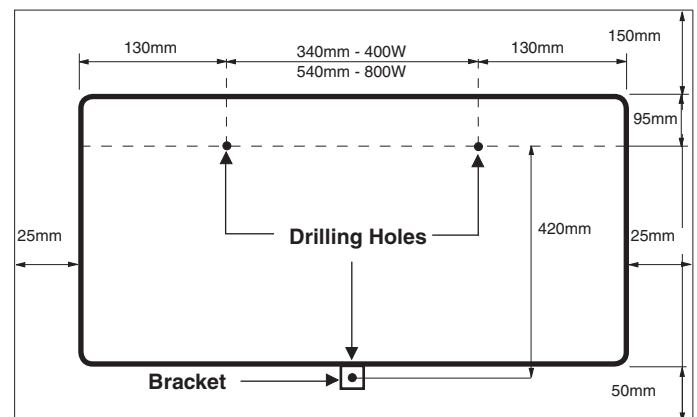

Fig. 2
Wall Mounted Operation (see Fig. 2)
2. Position the drilling template provided on the wall ensuring it is level. Mark the position of the relevant holes on the wall at the edge of template. Before drilling check that the distance between the hole centres is correct, 340mm for 400W Models and 540mm for 800W models (see Fig. 2).